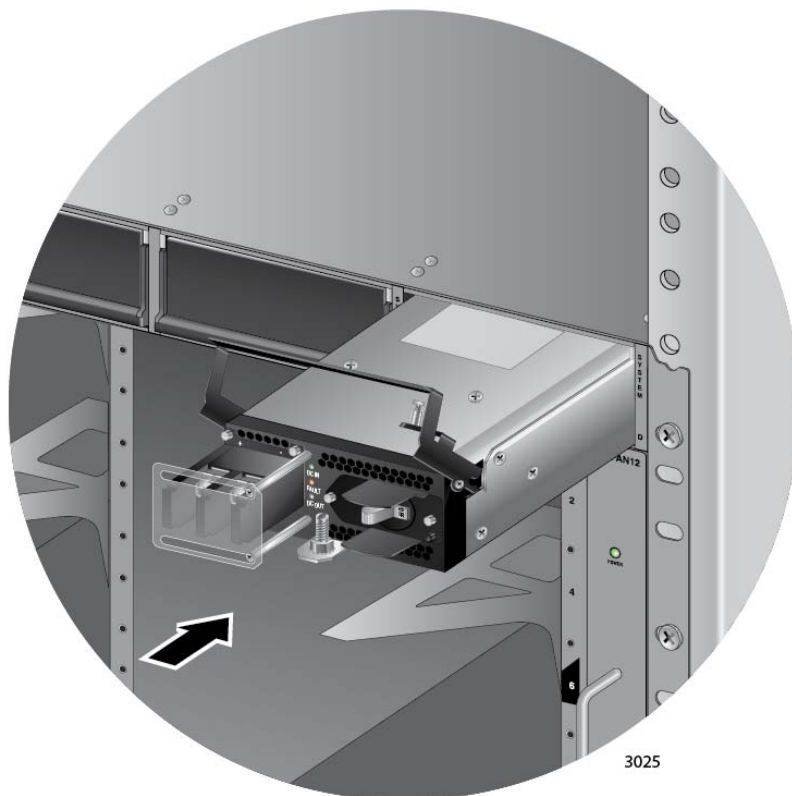

Figure 63. Inserting the AT-SBxPWRSYS1 DC System Power Supply
7. Align and insert the AT-SBxPWRSYS1 Module into slot C or D. Figure 63 shows the power supply installed in slot D.